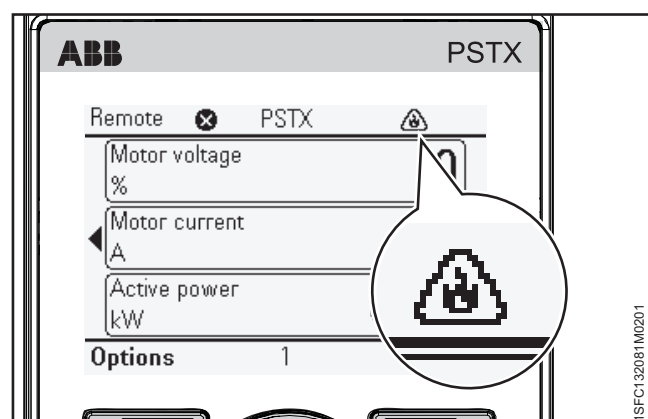

Figure 6.13
4. Lock keys by a lock code, See **Figure 6.13**